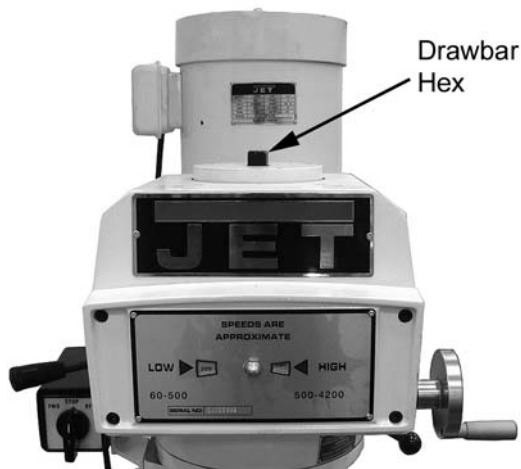

Figure 18
1. Using the wrench provided with the machine, loosen the draw bar two or three turns (turn counterclockwise) using the draw bar hex (Figure 18).